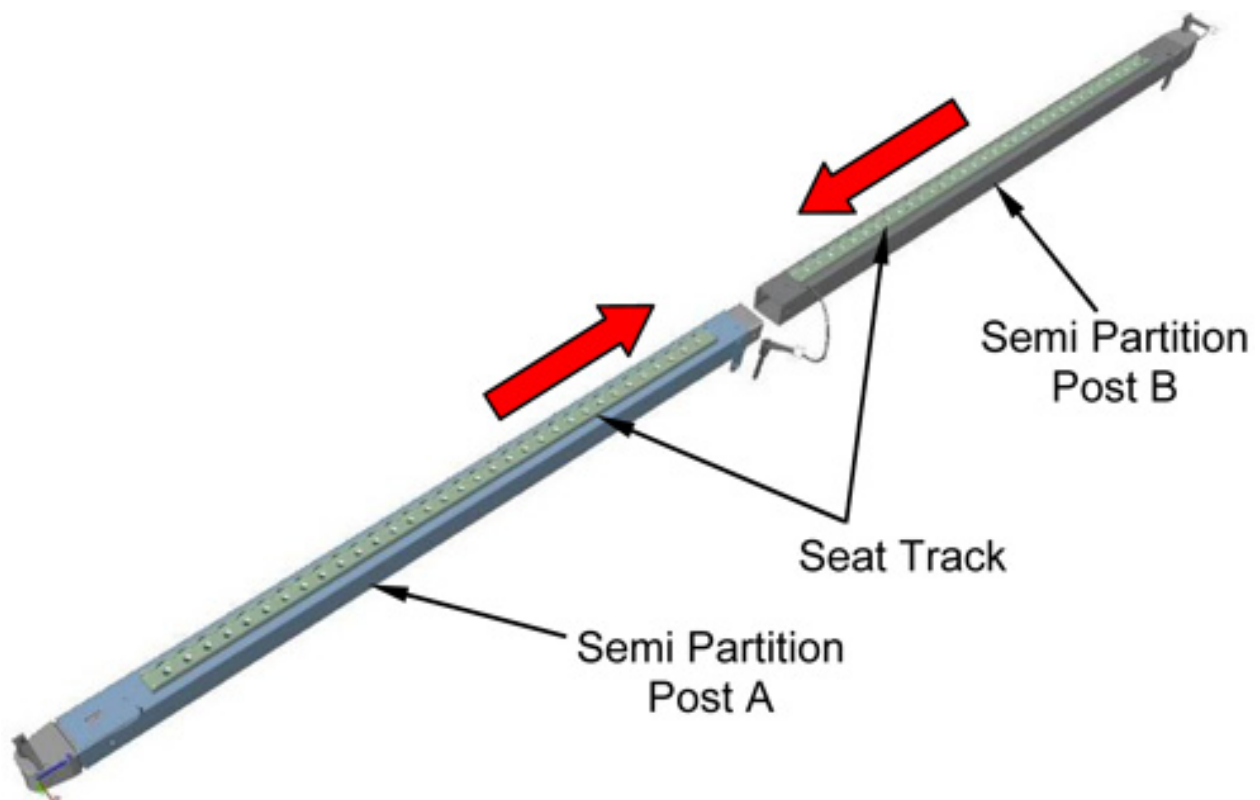

Figure 5. Assembly of the two semi Partition Posts
2. When unfolded the Partition Post is divided in two semi Partition Posts. Refer to Figure 5.
Refer to Figure 5.